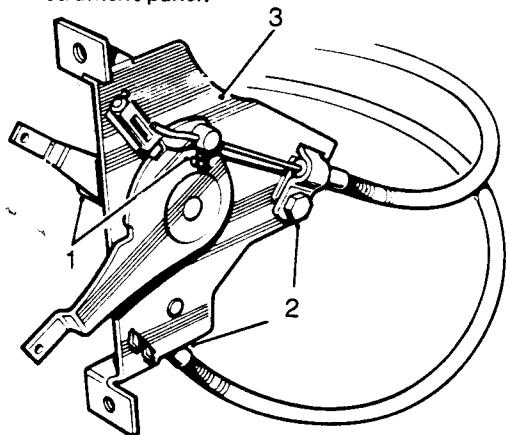

Fig N3.2
- (5) Refer to Fig N3.2. Slacken the inner cables grub screws (1).
- (6) Slacken the outer cables clamp screws (2).
- (7) Withdraw the heater control assembly (3).